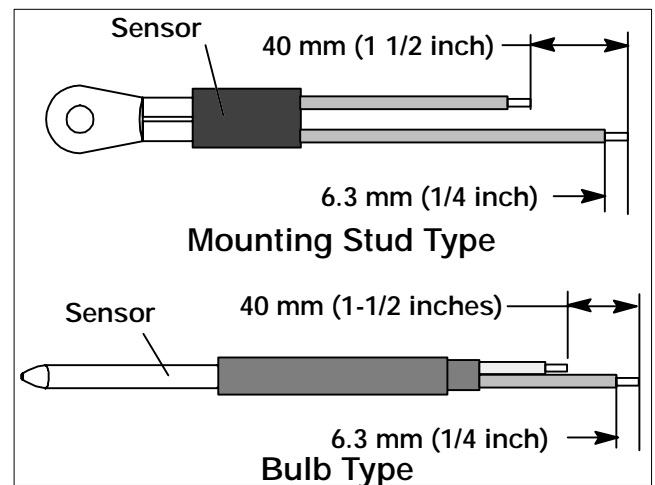

Figure 6-21 Sensor Types
- Cut one replacement sensor wire (opposite color) back 40 mm (1-1/2 inch). (See Figure 6-21.)